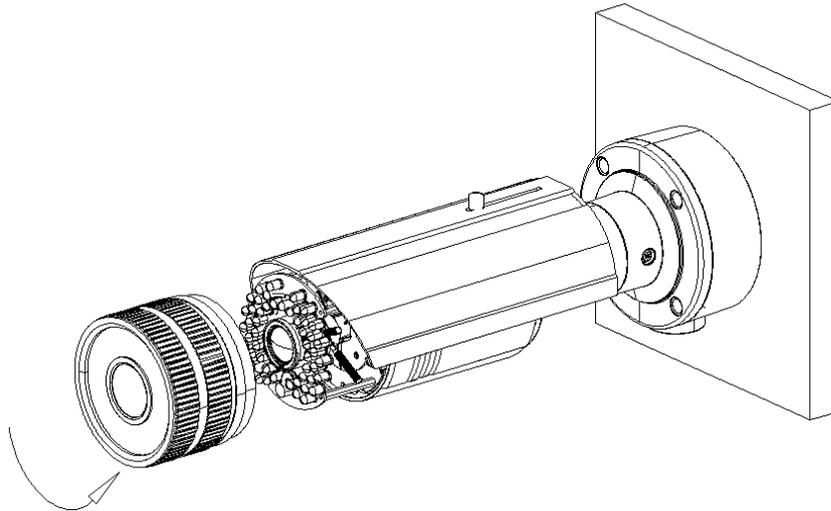
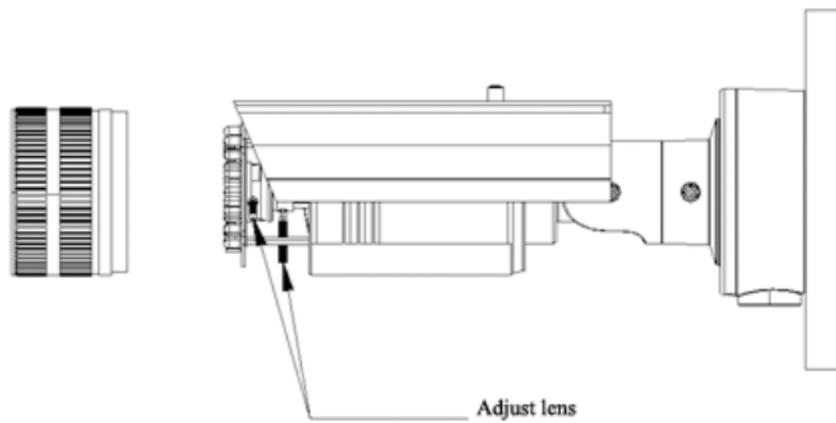

Figure 3.3.4
Figure 3.3.5 Adjust lens
Step 4: Twist-off front cover from the camera, then adjust the lens as shown in Figure 3.3.4 and Figure 3.3.5.